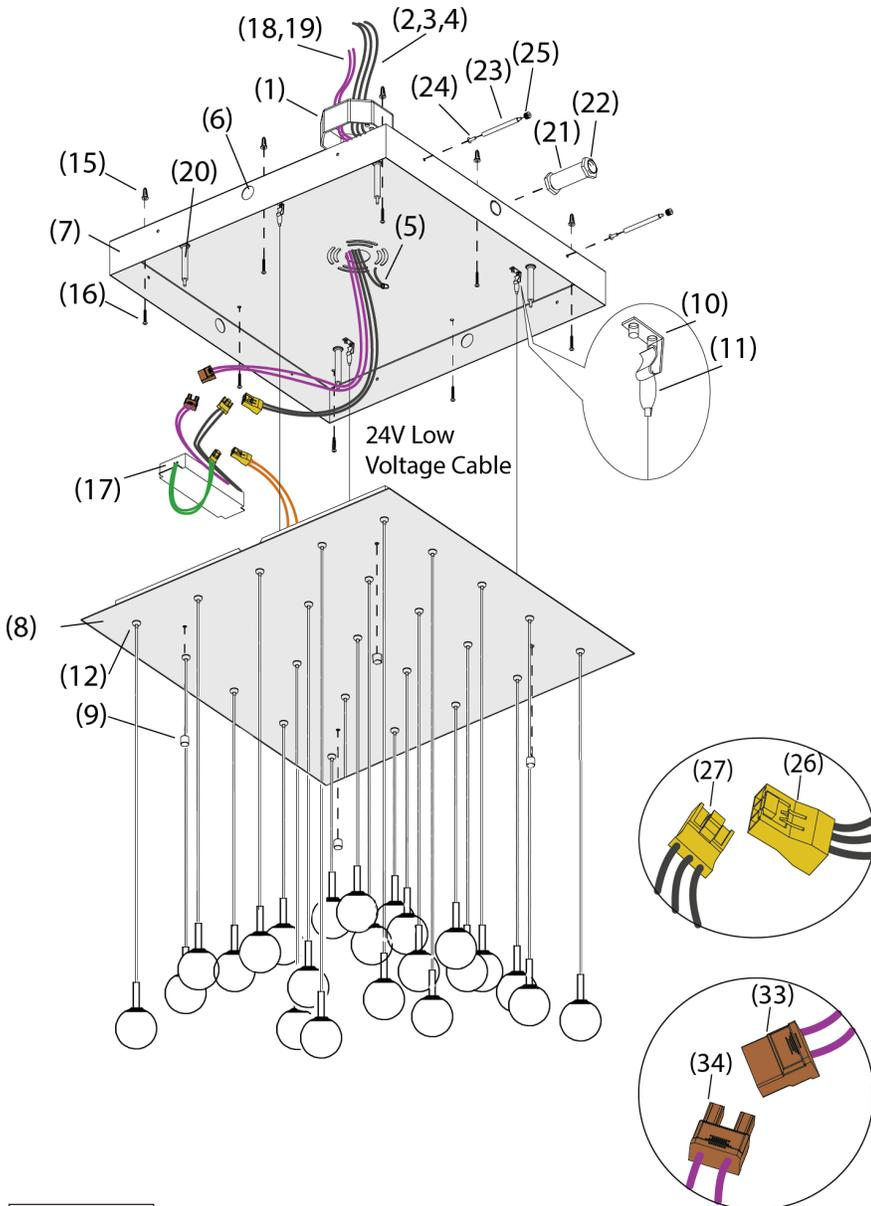

FIGURE 4
a. To mount the second fixture, push out large center knock-out (32) from second ceiling plate. Install the second ceiling plate into the side with the fixture spacers and joiner kit. Insert fixture until it is securely aligned by the threaded rods of fixture spacers. Mark and drill eight support holes using the appropriately
sized drill bit into a rigid ceiling material. Insert ceiling anchors (by others) into the holes. First screw the anchor screws halfway into the ceiling anchors; when properly aligned with the joining ceiling plate (7), fully tighten all anchor screws (16). (see Figure 4) Place knurled ring (22) over the end of the joiner bracket (21), and place the hex nuts (25) over exposed thread on the fixture spacers (23), and tighten. Feed the three conductor 36" extension wire (26) and (Optional) Purple and Grey 36" extension wires (27) through joiner tube (21) into the second fixture. (See Figure 1)
11. Assemble Acrylic Globe Pendants (13) and adjust cord lengths before attaching the face plate (8) ceiling plate (7).
a. Determine the approximate length of each suspension wire. If in doubt about exact length needed, leave a little extra wire until final installation of face plate (8). Push the excess wire into the canopy by pressing the small barrel of the gripper (12) upward. This will release the wire tension and allow the suspended wire to be pulled through the gripper (12). Roll excess wire into a small loop inside the canopy. Use supplied velcro strap, attached to each wire in the face plate (8).
12. Suspend the from face plate (8) from ceiling plate (7) by attaching three support loops (11) to their mating hooks (10).
13. Make sure all wires are carefully placed inside face plate (8) and make sure all of the orientation arrows are aligned. Secure the canopy cover (8) to the ceiling plate (7) by aligning the holes in the canopy cover with the threaded standoffs (20), then tighten the four decorative finials (9) onto the threaded standoffs (20). Once the canopy is in place, fine tune the wire lengths longer or shorter to get each light guide adjusted to its preferred length by pushing the end of the gripper (12) (Figure 4).